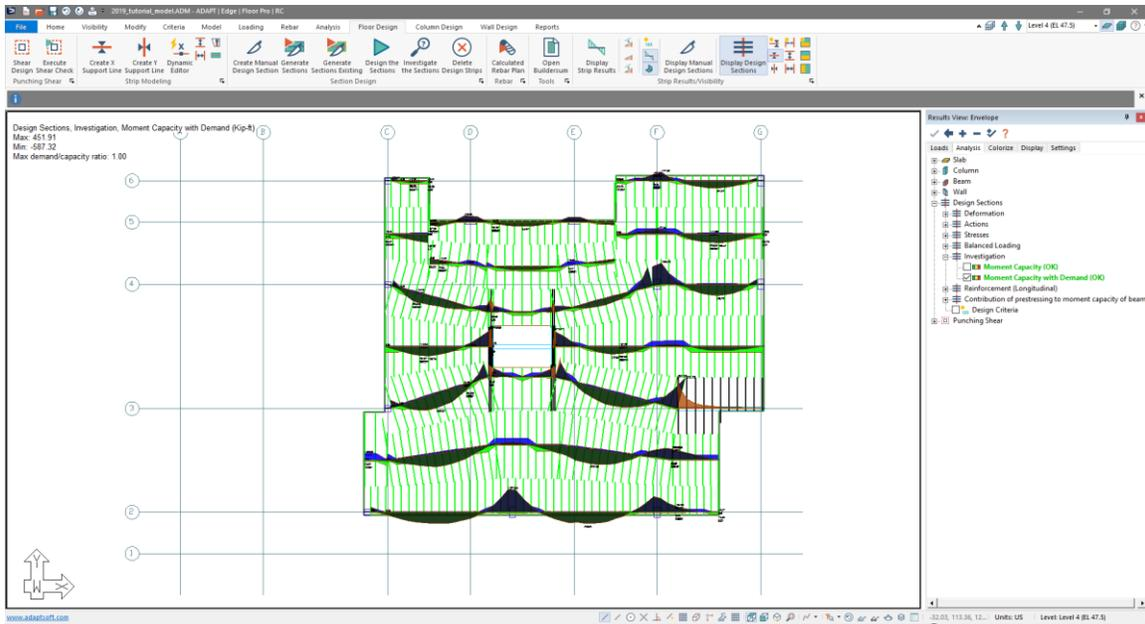

Figure 10-33
- In the *Analysis* tab of the *Results Browser* check the box next to *Design Sections* → *Investigation* → *Moment Capacity with Demand* by clicking on it. The user should now see the moment capacity with demand curve along the support line as shown in **FIGURE 10-33**.